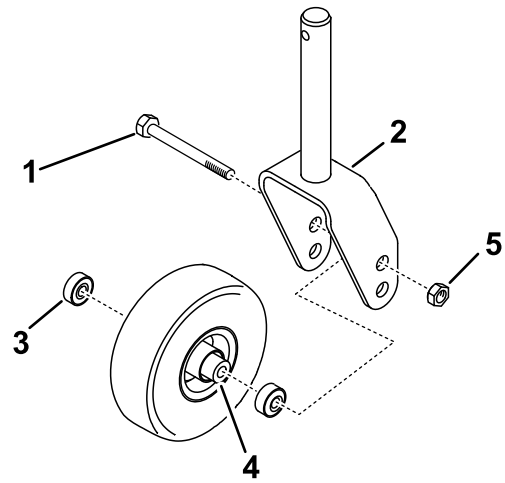

Figure 6
- Assemble the castor wheels to the castor fork as shown in Figure 6.